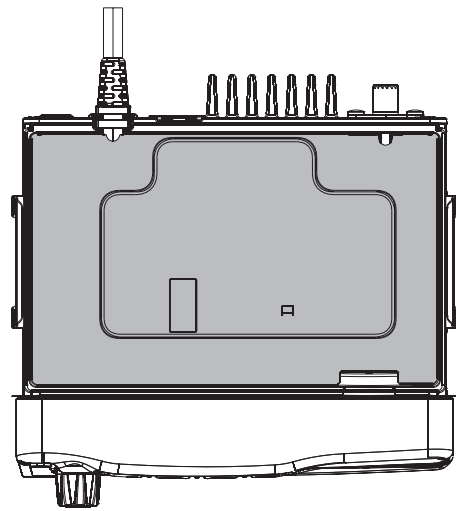

Figure 2
3. Referring to Figure 2, remove the Shield Case Cover.